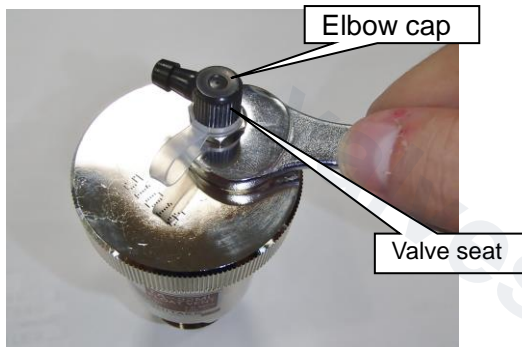

Fig.3
3. Remove valve seat with spanner (nominal size: 12mm) (see Fig.3).